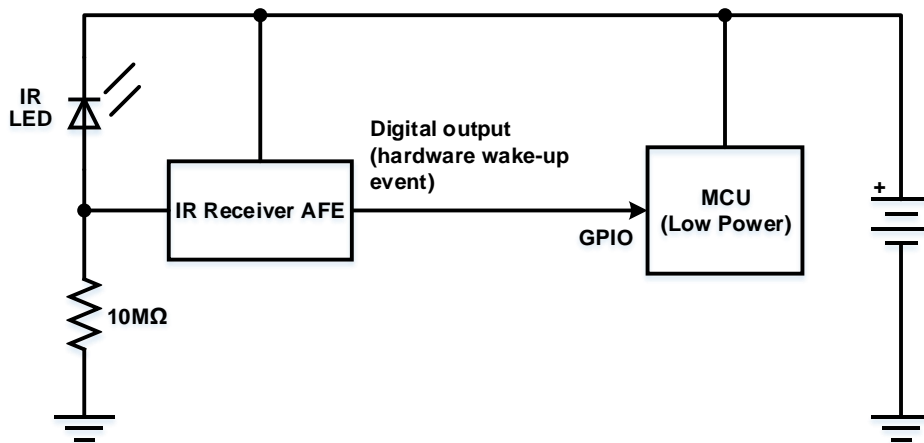

Figure 20. Coin Cell Battery Powered IR Receiver
Infrared (IR) communication is inherently immune to RF interference as long as there is a line-of-sight path between the transmitter and the receiver. It is also one of the lowest cost communication schemes. This makes it a good choice for implementing wireless communications in applications such as utility metering. A common system topology to extend battery life is to use a power efficient IR receiver analog front end (AFE) that is always on and wakes up the host only when there is a valid IR signal detected as shown in Figure 20.
Figure 20 shows the IR receiver system block diagram. The host MCU is normally in the shutdown mode (during which the quiescent current is less than 1μA) except when data is being transferred.